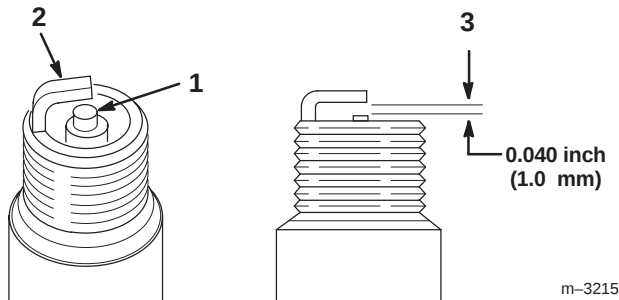

Figure 44
1. Look at the center of the spark plugs (Fig. 44). If you see light brown or gray on the insulator, the engine is operating properly. A black coating on the insulator usually means the air cleaner is dirty.
2. Check the gap between the center and side electrodes (Fig. 44). Bend the side electrode (Fig. 44) if the gap is not correct.